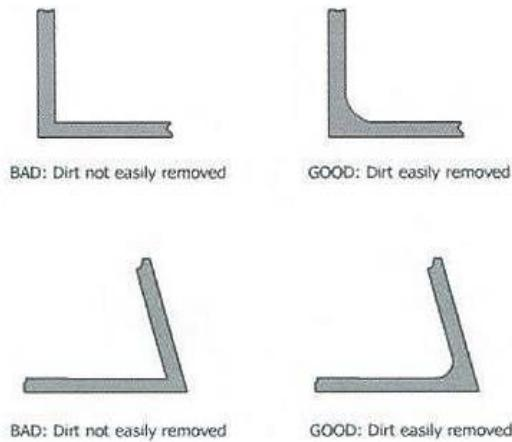

Figure 15: Improved design with minimum sharp corners
d) **Avoid sharp corners and bends:** These are the potential corrosion sites, and round corners must replace these. Sharp corners result in the thin coating at corners and are not protected effectively rounding the corners resulting in an even coating. Sharp bends and other areas where the fluid directions changed rapidly can promote corrosion and should, therefore, be avoided. (Figure 15)